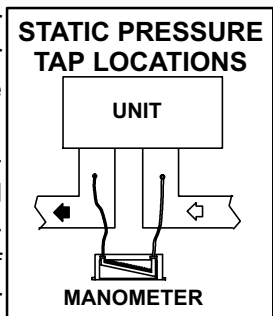

FIGURE 20
- a - Measure tap locations as shown in figure 20.